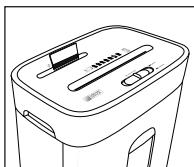

Fig. 8
Insert the credit card from above into the middle of the CD/credit card cutter opening ② (see fig. 8) and move the REV/OFF/AUTO/FWD switch ③ to the FWD ("forward") position.